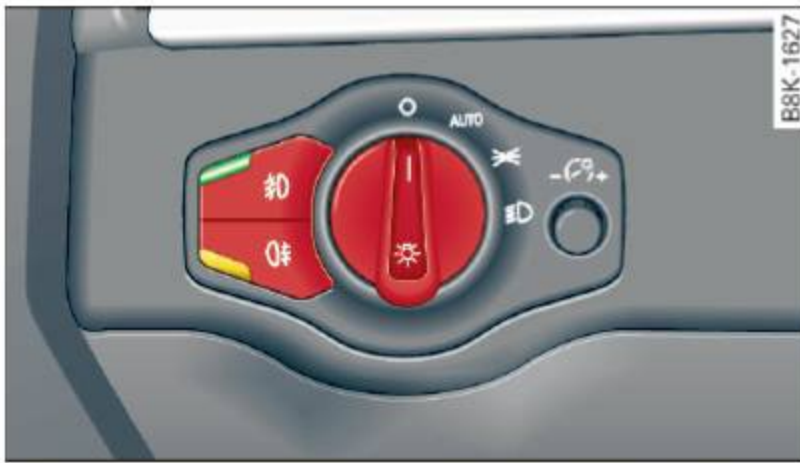

Fig. 34 Instrument panel: headlight control switch
Turn the switch \Rightarrow *fig. 34* to the corresponding position. When the lights are switched on, the \Rightarrow symbol turns on.
- **USA models:** The daytime running lights are activated when the light switch \Rightarrow *fig. 34* is in the **0** position or the **AUTO** position (only in daylight conditions). The daytime running lights function can be turned on and off in the radio or MMI* menu **Exterior lighting** \Rightarrow *page 44*, \Rightarrow .
- **Canada models:** The daytime running lights are activated when the light switch \Rightarrow *fig. 34* is in the **0** position, \Rightarrow position or the **AUTO** position (only in daylight conditions). The daytime running lights function cannot be turned off \Rightarrow .
Press the appropriate button \Rightarrow *fig. 34*:
⇒ page 43, fig. 34.